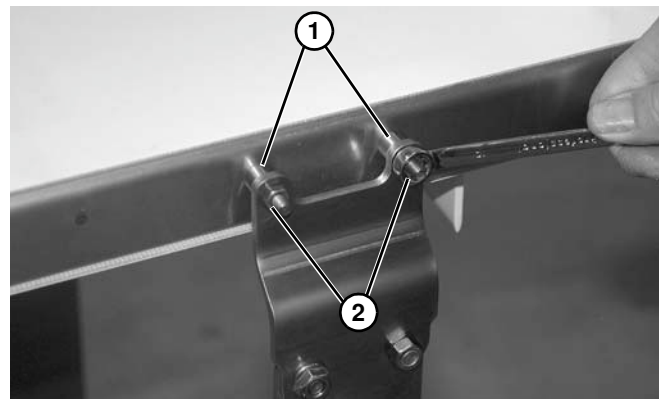

Figure 4
4. Center (if applicable): Attach stand to the conveyor frame with two spacers (**Figure 4, item 1**) and two carriage bolts and nuts (**Figure 4, item 2**) on each side.